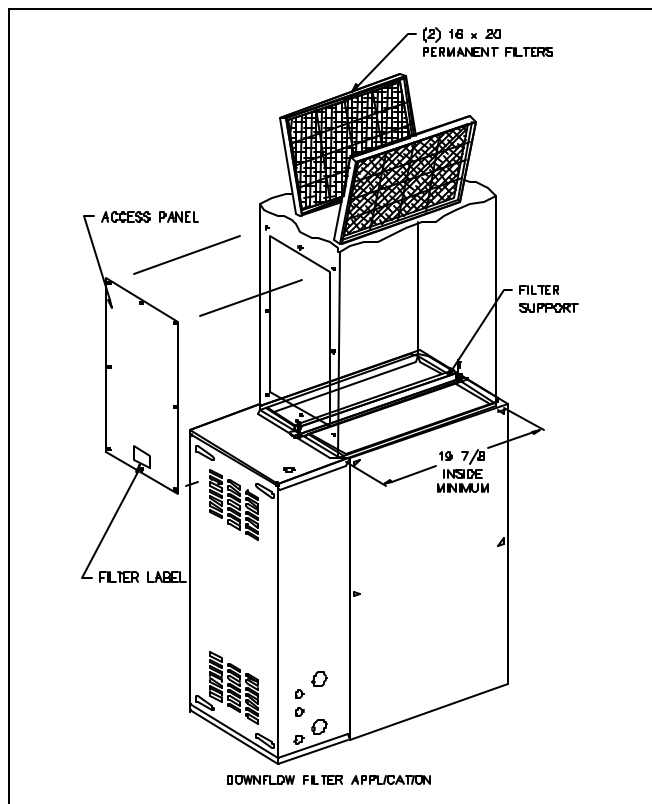

Figure 24. Downflow Filter Application
In downflow position, return air duct must be a minimum 19-7/8 inch inside depth. See Figure 24.
For downflow installations, install filter support in return air plenum as shown in Figure 24 or use return air filter grille. Downflow Filter Kit that includes filters (2) and support is available from manufacturer.